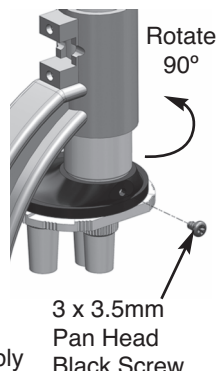

Figure 5
- ❑ Rotate the body tube and turret assembly 90° and screw together with a 3 x 3.5mm pan head screw, as shown in Figure 5.